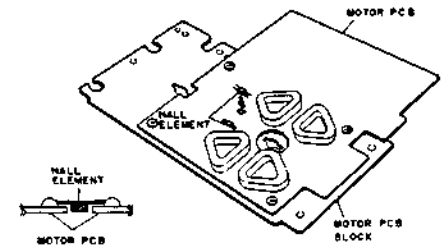

Fig. 3-11
- 4) When attaching a replacement, connect the protruding portion of the Hall element to the circuit board. (Refer to Fig. 3-11.)